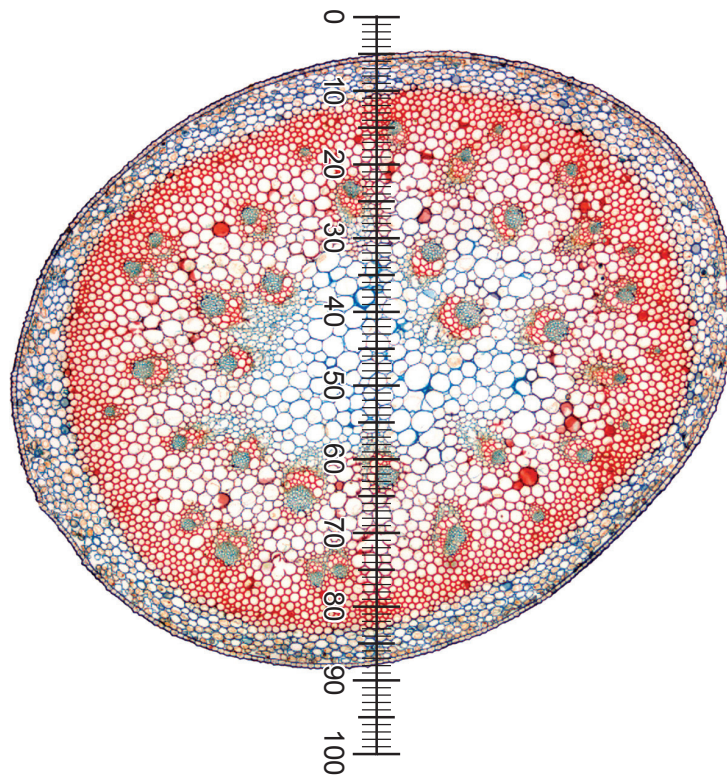

Fig. 2.3
Fig. 2.3 shows a photomicrograph of a section of a stem, viewed using a microscope with an eyepiece graticule.
- (ii) The eyepiece graticule shown in Fig. 2.3 has been placed across the diameter of the section.
Use the calibration of the eyepiece graticule unit from (c)(i) to calculate the actual diameter of the section in Fig. 2.3.